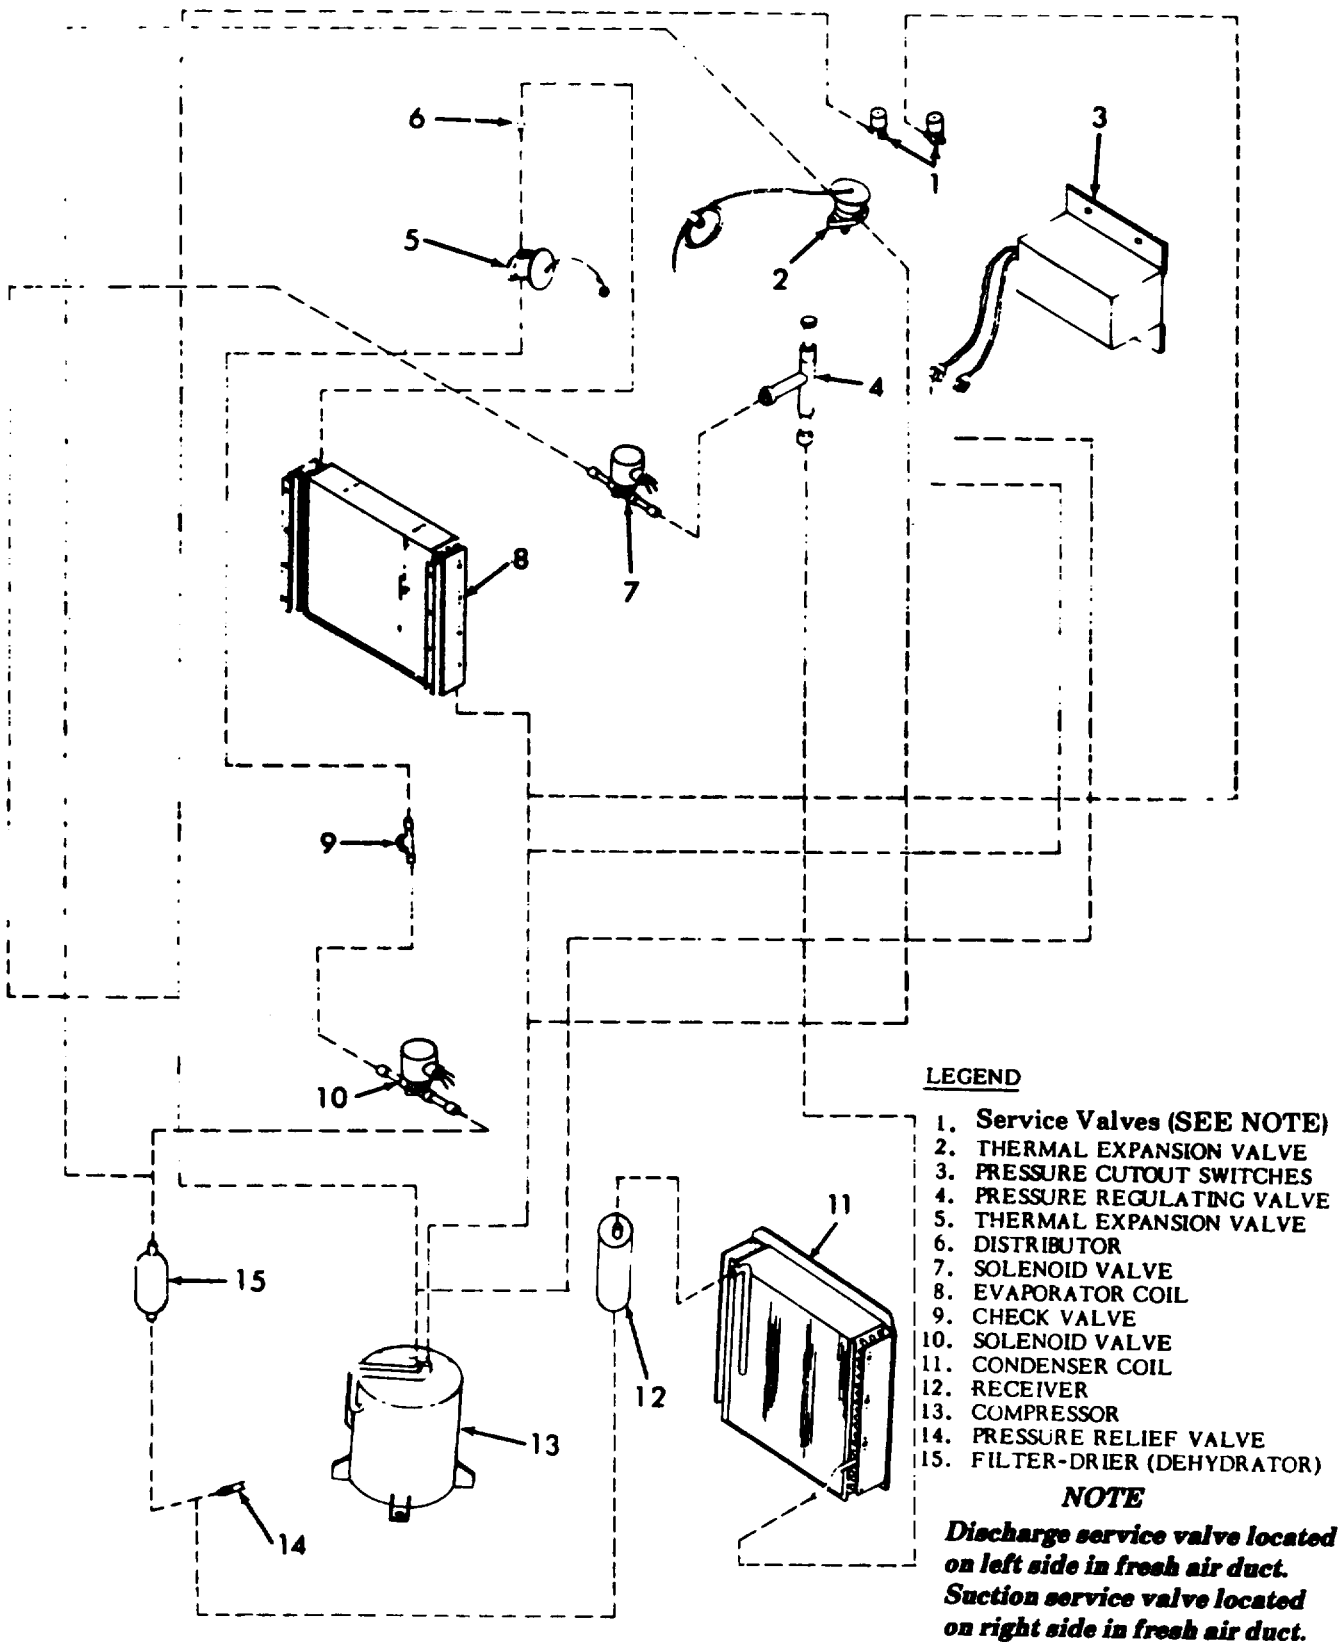

Figure 5-8. Refrigeration Component Layout
(1) Remove five screws from the fresh air screen, and remove the screen to gain access to the refrigeration service valves.
(2) Refer to figure 5-8 for identification of service valves. Discharge the system in accordance with paragraph 5.22.a.
(3) Remove coil assembly as directed in paragraph 5.49.
(4) When refrigerant is completely discharged from the system, remove the two screws that fasten the tube and plunger assembly to the body. Remove tube and plunger assembly, O-ring and diaphragm, and discard.
(5) If valve body is serviceable install replacement parts. If valve body is warped or is otherwise unserviceable, connect a cylinder of dry nitrogen to the discharge service valve, and establish a flow of 1-2cfm (0.1 - 0.2 M3/min) through the system. Debraze the valve body from the refrigerant tubing.
(6) Remove two mounting screws attaching the valve body to the mounting bracket. Remove the solenoid valve body.
### 5.52. Description (See figure 5-8).
- b. Refer to figure 5-8 for identification of service valves. Discharge the system in accordance with paragraph 5.22.a.
- (1) Remove 18 screws and washers from the four sides of the fabric cover, and remove the fabric cover.
- (2) Remove 15 screws and packing washers from the top panel, and five screws from the rear flange. Remove the top panel.
- (3) Remove the air intake grille by turning six can-lock studs clockwise. Remove the air filter by removing two screws from the retainer and pulling out the filter.
- (4) Unscrew two panel fastener screws in the upper edge of the lower panel, and remove the panel.
### 5.62. Description (See figure 5-8).
### **5.66. Description (See figure 5-8).**